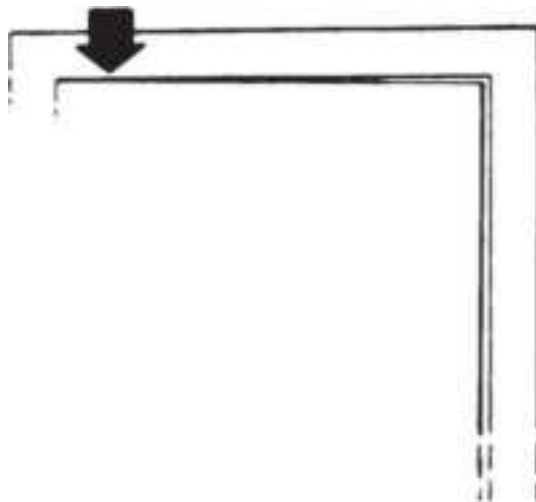

**Figure 13.4** Is the door binding?
- Is the door binding? Frames that are out of plumb are frequently the cause of faulty operation of locksets and binding of bolts in the strike (Fig. 13.4 ).